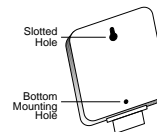

FIGURE 4: Back of Controller Box
- Slip the slotted keyhole in the back of the controller box over the extended screw [See Figure 4].